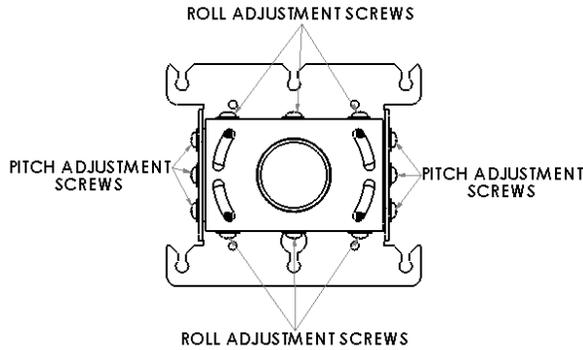
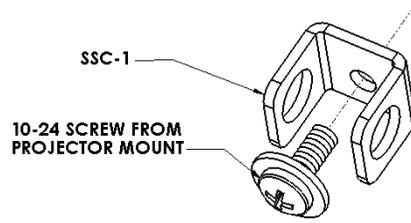

Figure 4.
Figure 5.
3. Install an SSC-1 bracket in one pitch and one roll adjustment screw on the RPA projector mount (see Figure 4 & Figure 5).